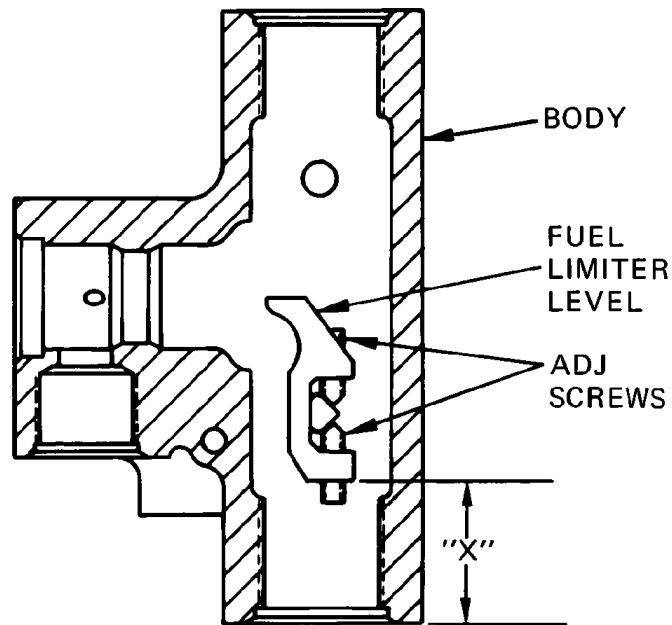

Figure 4-1. Measurement of Fuel Limit Lever Position
5. Loosen one adjusting screw only to remove fuel limiter lever (see Figure 4-1). The other screw maintains the correct position for reassembly.
If both adjustment screws are removed, measure "X" dimension (Figure 4-1) to assure that these parts can be replaced in their original positions.